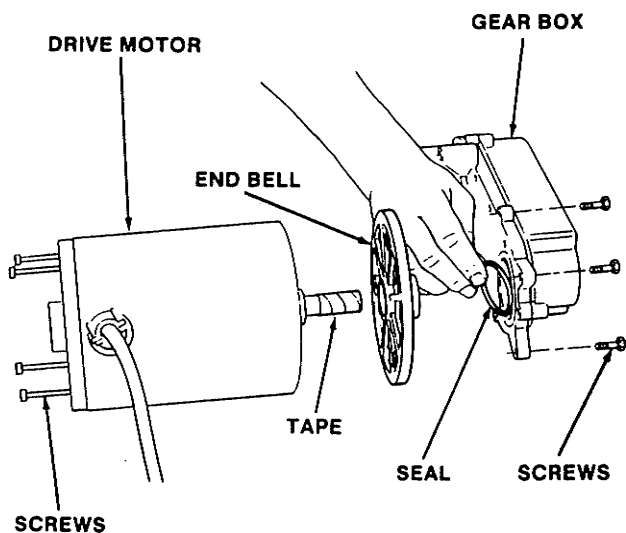

Figure 62. Motor Gear Box Assembly
5. Cover the gear portion of the drive motor shaft with masking tape and lubricate. (See Figure 62.)